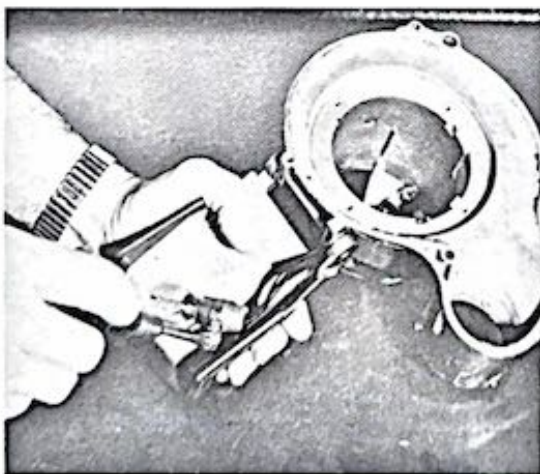

Figure 1-40. Removing headlight socket screw
(1) Remove the screw (39) that secures the headlight socket and wire (38) to the headlight cap as shown in figure 1-40.
(2) Disassemble the motor unit as directed in paragraph 1-19a through j.
(3) Disconnect the leads from the terminals of the foot switch.
(4) Remove the headlight socket and wire from the motor housing as directed in paragraph 1-19m(2).
(5) Position the headlight cap with a spring washer (28) on each side between it and the motor housing and aligned with the hole; install the headlight cap pin (25) with the grooved end outward from the side opposite the exhaust opening.
(6) Install the housing shell and foot switch button as directed in paragraph 1-14c(2) and (3).
(7) Secure the headlight socket to the headlight cap with the screw (39) (see figure 1-40).